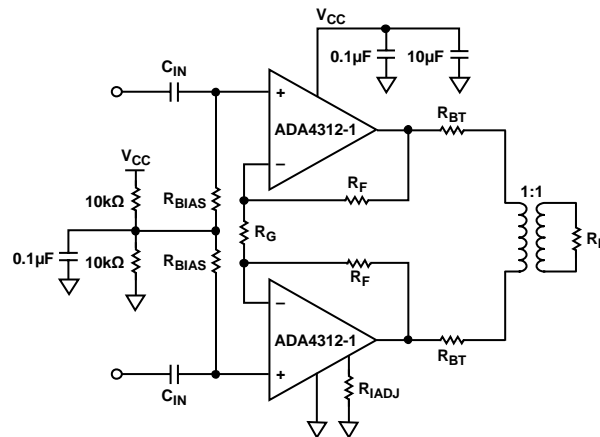
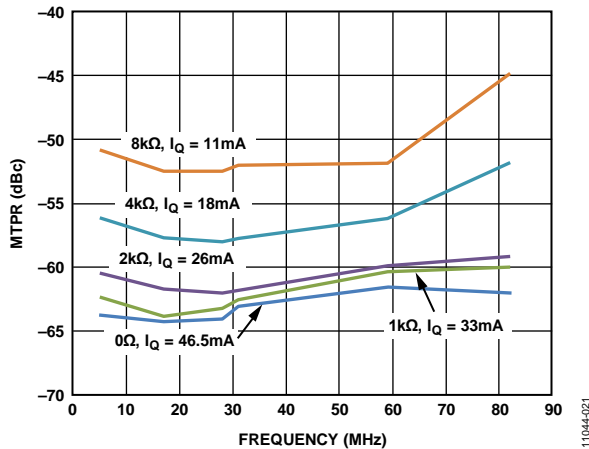

Figure 17. Typical G.hn Application Circuit
Figure 18. MTPR vs. R_{IADJ}
The feedback resistor value has a direct impact on the closed-loop bandwidth of the current feedback amplifiers used in the architecture of the ADA4312-1 differential line driver. Table 5 provides a guideline for the selection of feedback resistor values used in typical differential line driver circuits (refer to Figure 17).
The patented input stage of the core amplifiers is not conducive to operating either core amplifier independently. The ADA4312-1 input stage is designed to operate only in differential applications similar to the circuit shown in Figure 17.
In systems such as G.hn PLC modems, half-duplex or time-division duplex (TDD) systems require the line driver to be switched between transmit mode and high output impedance receive mode. The ADA4312-1 is equipped with a shutdown pin (SD, Pin 9) that stops the line driver from transmitting while switching the outputs to a high output impedance equivalent to $10\text{ k}\Omega$ in parallel with $2R_F + R_G$ (see Figure 17). The shutdown (SD) pin is compatible with standard 3.3 V CMOS logic. If the SD pin is left floating, an internal pull-up resistor places the output in a disabled, high output impedance state. SD logic is referred to GND (Pin 4), which should be connected to 0 V.
In single-supply applications such as the one shown in Figure 17, it is necessary to establish a midsupply operating point (V_{MID}). To establish V_{MID} , use two $10\text{ k}\Omega$ resistors to form a resistor divider from V_{CC} to ground and a $0.1\text{ }\mu\text{F}$ ceramic chip capacitor for decoupling. Place the V_{MID} decoupling capacitor and the R_{BIAS} resistors as close as possible to the ADA4312-1.
Note that there is a trade-off between the adjusted quiescent current and the linearity (or MTPR) of the transmitted signal. Multitone power ratio (MTPR) was monitored at 5 MHz, 17 MHz, 28 MHz, 31 MHz, 59 MHz, and 82 MHz. Figure 18 can be used to gauge the approximate degradation of MTPR vs. R_{IADJ} and quiescent current while transmitting the G.hn signal across a 40 Ω differential load in the circuit shown in Figure 17.